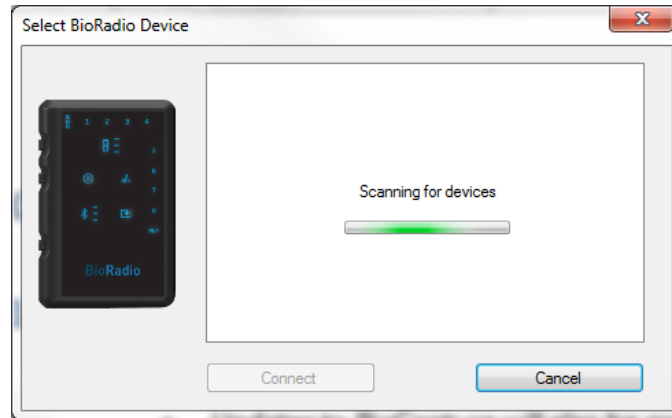

Figure 4: Select BioRadio Device Window
3. A list of BioRadio devices turned on and not connected to other computers will appear (Figure 4)